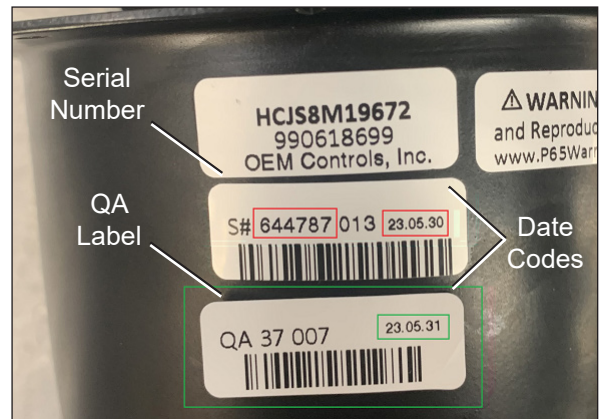

Figure 1 — Serial Number and QA Labels
2. Locate the OEM Controls serial number label(s). The labels are typically attached to the joystick, under the rubber cover. The serial number is identified as a 6-digit code starting with S# followed by a date code in the following format YY.MM.DD (Year.Month.Day), refer to Figure 1.